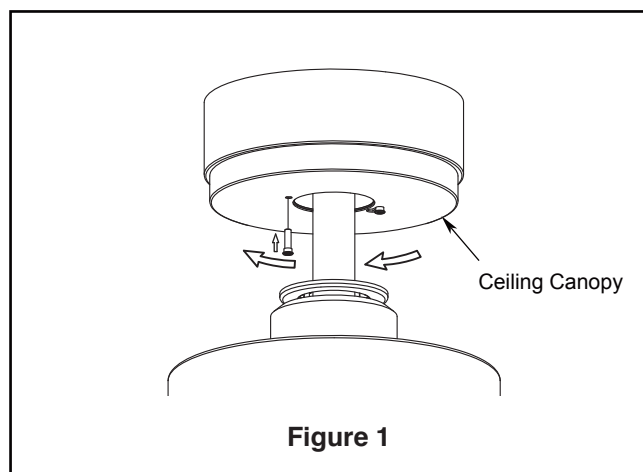

Figure 1
- ☐ 1. Assemble canopy by rotating key slot in canopy over shoulder screw in hanger bracket, taking care not to pinch the wires. Tighten shoulder screw. Fully assemble and tighten second shoulder screw that was previously removed. (Figure 1)
1. Lay flat side of blade holder on a flat surface with the inside of the blade holder arm facing up. This is the side with the threaded posts and pitched foot. Position the blade over the blade holder with the threaded posts showing. Make sure the bottom edge of the blade is fully seated against the blade holder. Place blade cover on top of the blade, positioning the holes over the threaded posts. With a phillips screwdriver, thread three screws into the posts but do not fully tighten. Prior to final tightening, position the centerline of the blade holder with the center of the end of the blade. Tighten three screws to secure the blade. (Figure 1)